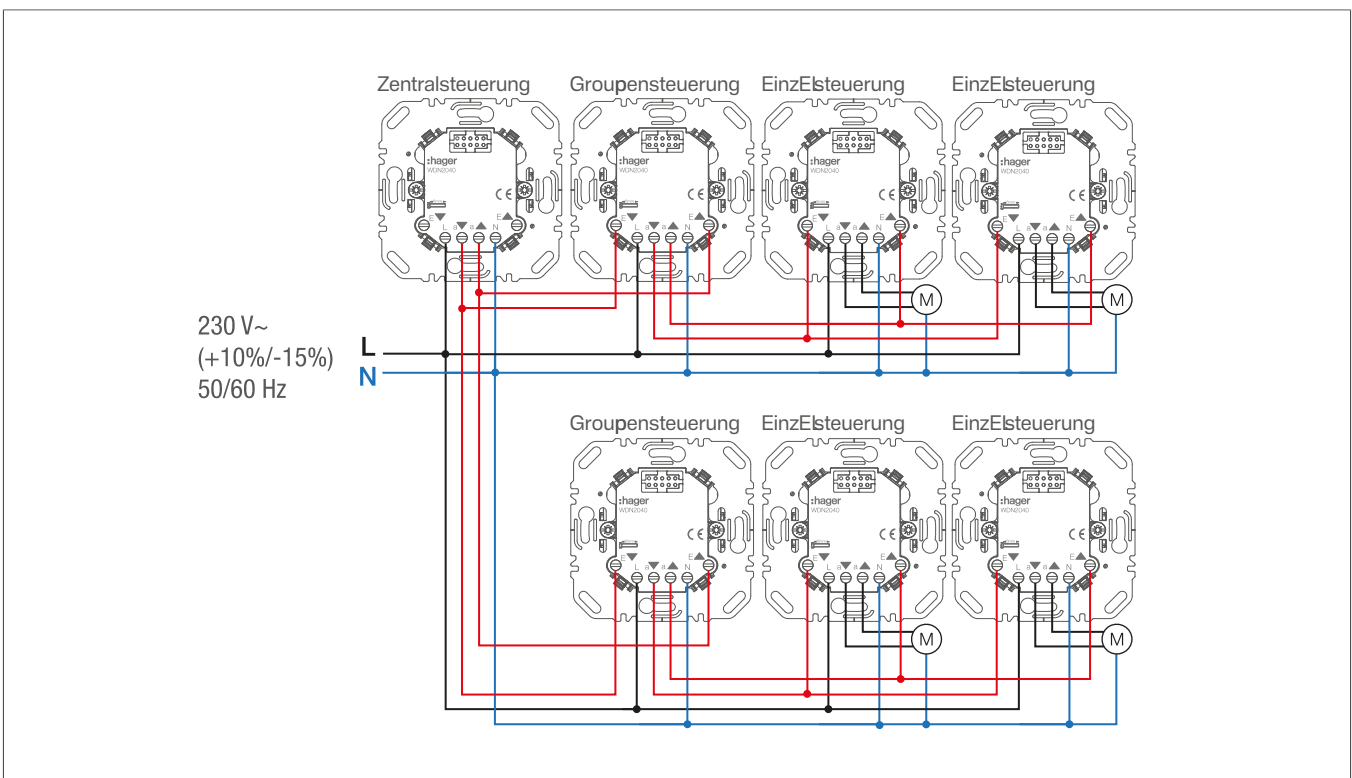

Fig. 6: Master control and group control
- Connect the master control and group control in accordance with the connection diagram (Fig. 6).
- Connect the master control to several residual current circuit breakers in accordance with the connection diagram (Fig. 6).